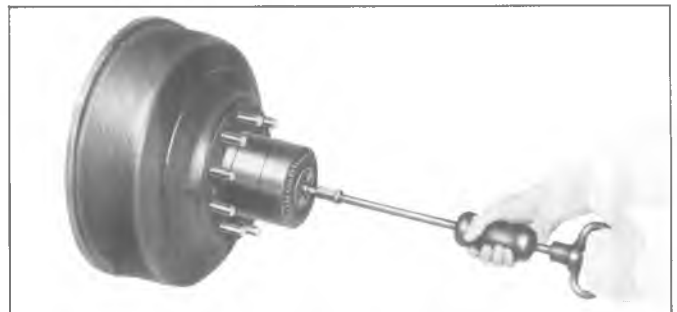

Fig. 32.—Removing Axle Shaft (11,000 lb. Axle)
2. Install slide hammer (Tool J-2619) and remove axle shaft (fig. 32).